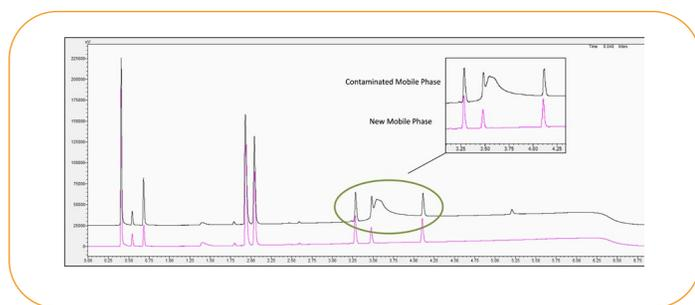

Figure 7: Ghost peak caused by a formic acid contamination in the mobile phases
- **Ghost Peaks (Mobile Phase Contamination):** If there is still an artifact peak after extending the run time, running a series of blank injections, and using a fresh sample, the mobile phases may be compromised. It is important to use HPLC/ MS grade solvents along with HPLC grade water. If your solvents are running low in your reservoirs, avoid topping them off, and instead, empty them completely followed by cleaning the bottles. Keep in mind that mobile phase modifiers can also become contaminated. For example, Figure 7 shows a comparison of chromatograms using a mobile phase with and without contaminated formic acid, which produced a ghost peak in the middle of the chromatogram from the contaminated additive.